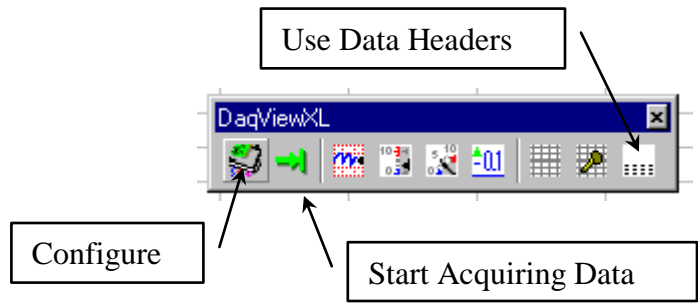

Figure 2: DaqView Toolbar
- 4.3. Configure DaqView by depressing the configure button on the DaqViewXL toolbar shown in the Figure 2.